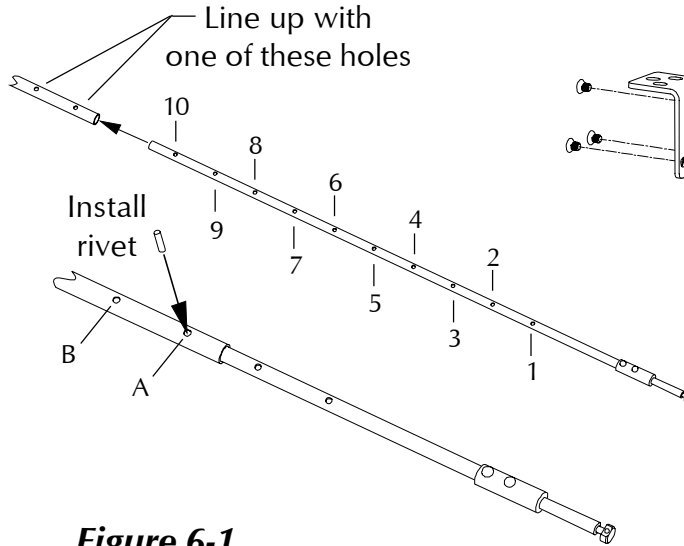

Figure 6-1
- 6.1. Rivet two-piece top rod together. Align holes according to door height (Figure 6-1). Rod length for a 7-foot door is approximately 38-1/2". Top rod sections are longer than bottom rod sections.